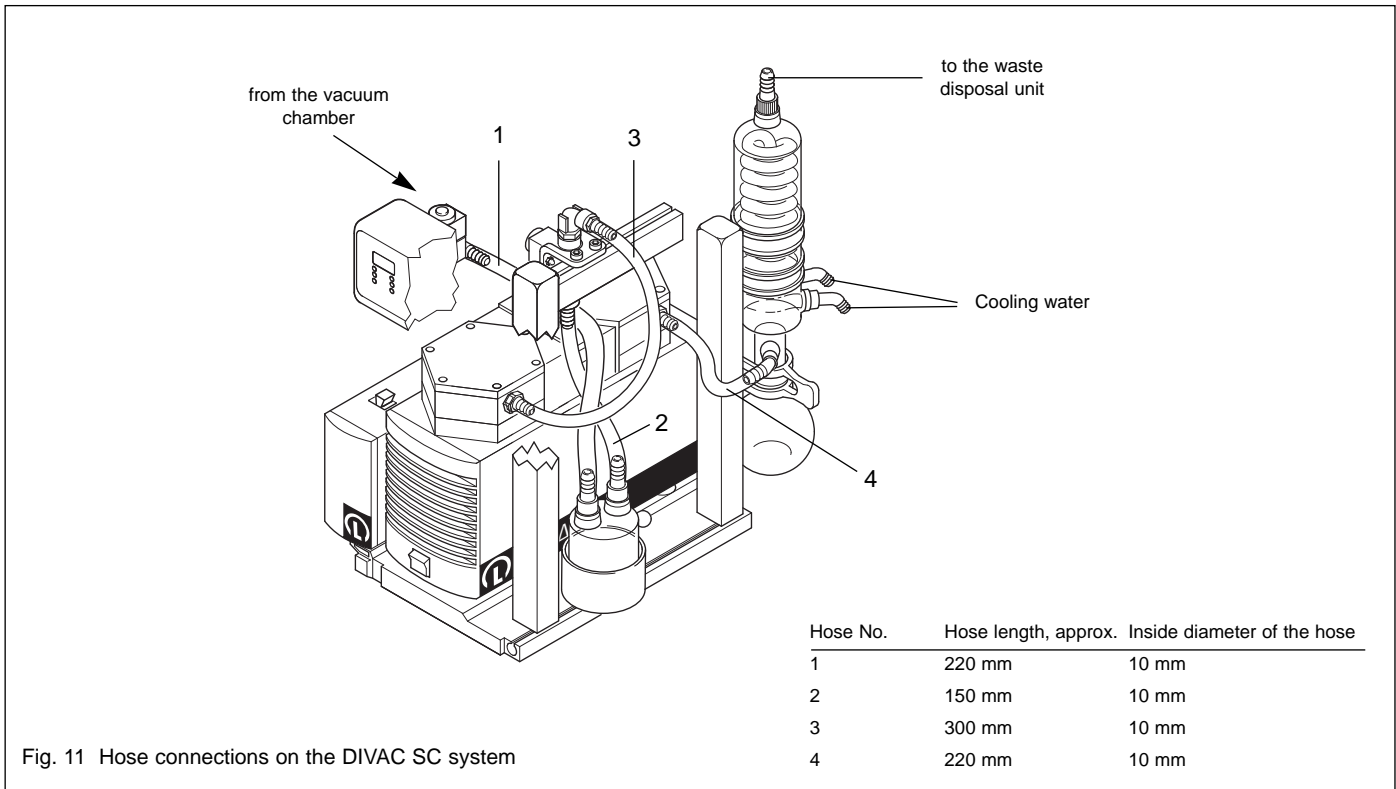

Fig. 11 Hose connections on the DIVAC SC system
- For hose connections refer to Fig. 11 (for hose materials see Section 6 - Spare Parts).